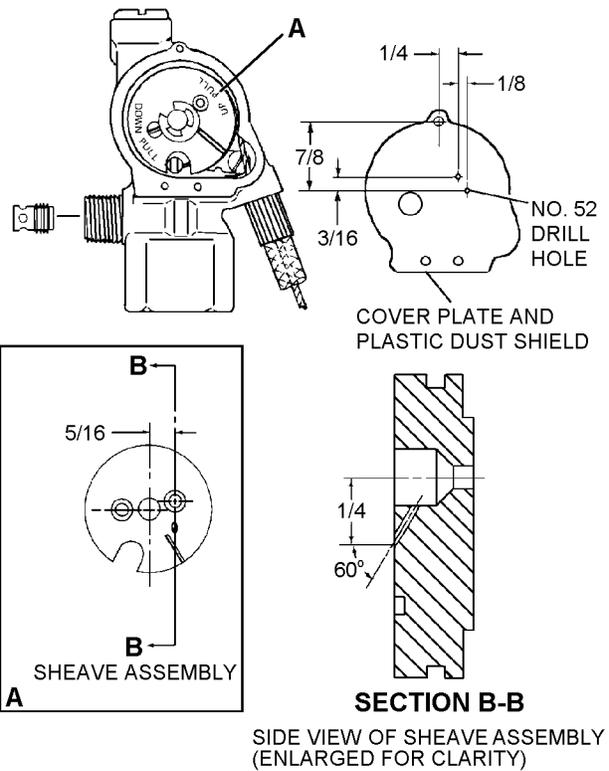

Figure 10-15. Drilling IV0303 Inflation Valve
3. Using a no. 52 drill, drill two holes in cover plate and plastic dust shield. See figure 10-15.
8. Using a no. 52 drill, drill a hole at a 60° angle in valve sheave. See figure 10-15.